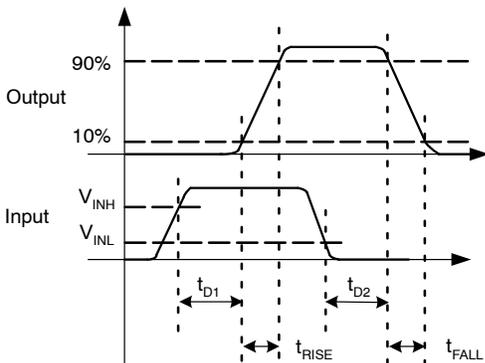
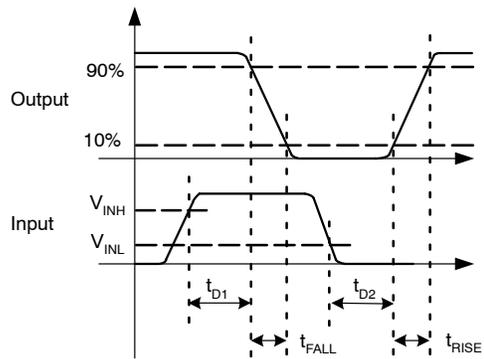
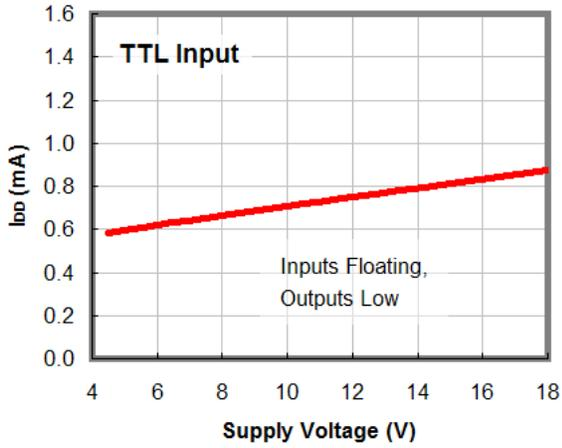
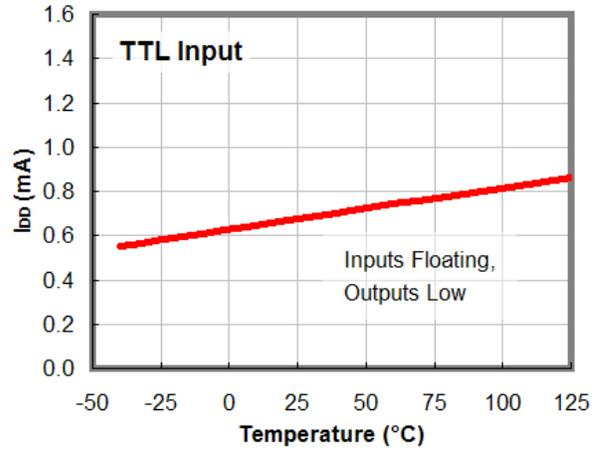

Figure 6. Non-Inverting Timing Diagram
Figure 7. Inverting Timing Diagram
Figure 8. I_{DD} (Static) vs. Supply Voltage (Note 10)
Figure 9. I_{DD} (Static) vs. Temperature (Note 10)
9. See Timing Diagrams of Figure 6 and Figure 7.
10. For any inverting inputs pulled low, non-inverting inputs pulled high, or outputs driven high, static I_{DD} increases by the current flowing through the corresponding pull-up/down resistor shown in Figure 6 and Figure 7.
In the I_{DD} (static) typical performance characteristics shown in Figure 8 and Figure 9, each curve is produced with both inputs floating and both outputs LOW to indicate the lowest static I_{DD} current. For other states, additional current flows through the 100 k Ω resistors on the inputs and outputs shown in the block diagram of each part (see Figure 6 and Figure 7). In these cases, the actual static I_{DD} current is the value obtained from the curves plus this additional current.